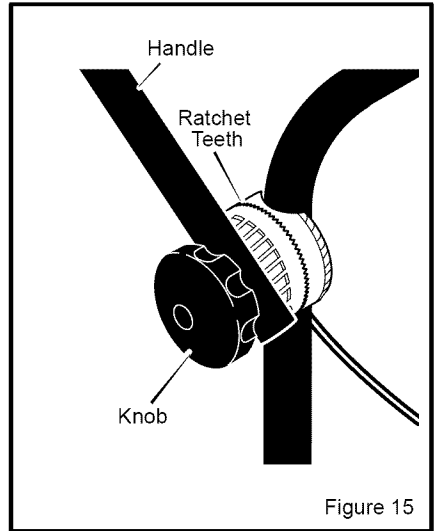

Figure 15
1. Hold the **handle** with one hand and loosen both **knobs** until the **ratchet teeth** are disengaged. Do not remove the **knobs**. See Figure 15.